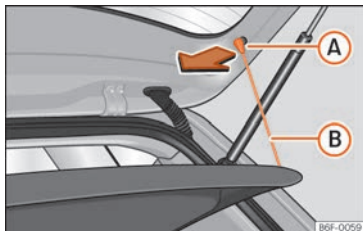

Fig. 145 In the boot: removing and installing the shelf.
- Detach the cord loops >>> Fig. 145 (B) from their hooks (A).
- Attach the securing straps >>> Fig. 145 (B) onto the rear lid.